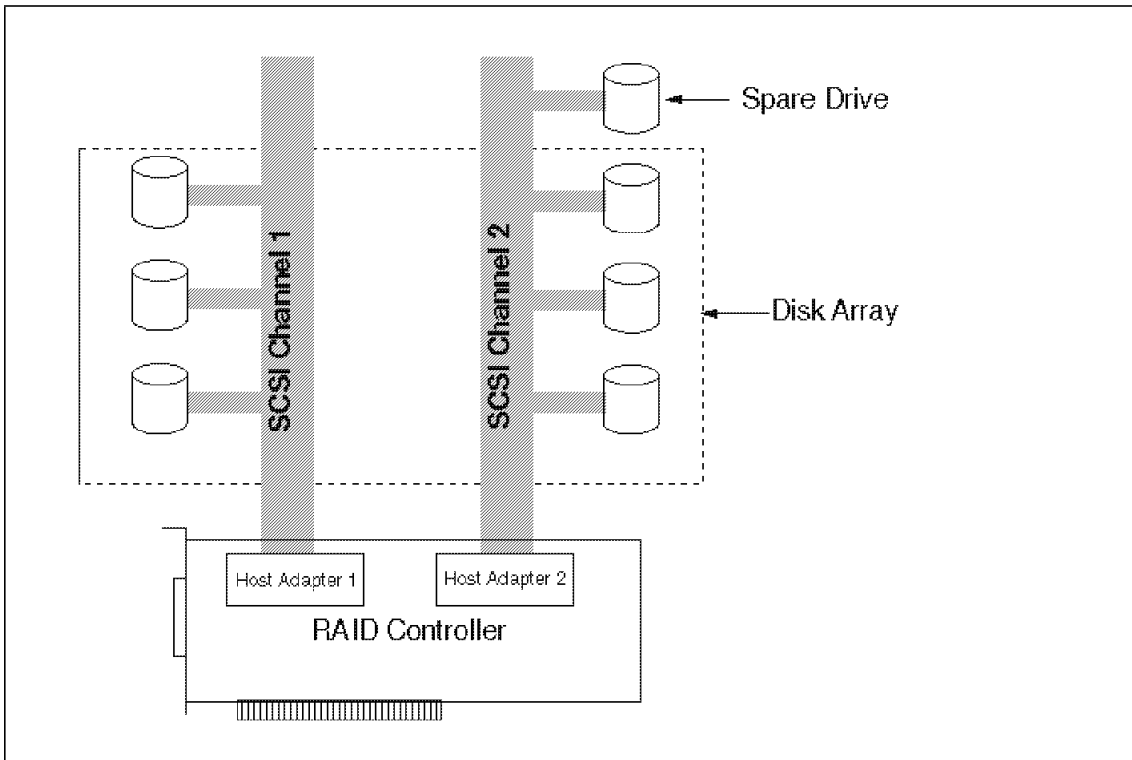

Figure 58. Disk Array Spanning Two SCSI Channels
- A single disk array may contain up to eight drives, exceeding the capabilities of a single SCSI channel, but here the drives can be evenly distributed over both SCSI channels as shown in Figure 58 on page 165.